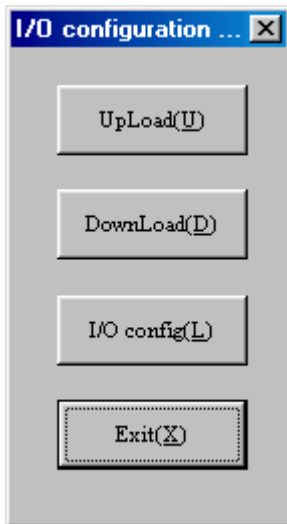

Figure 8.26 “I/O configuration” dialog box
Click “I/O set (I)” under “MainMenu” to display the “I/O configuration” dialog box (see Figure 8.26).